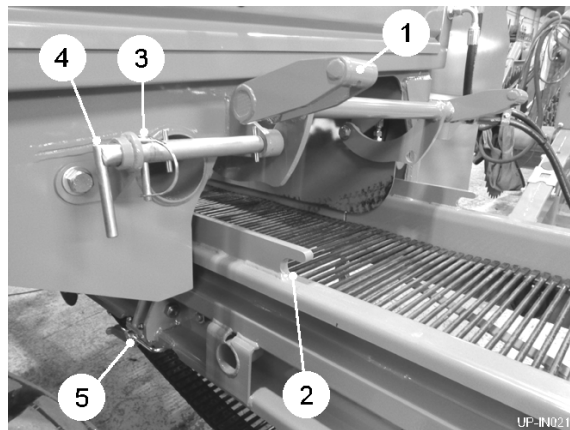

Fig 17
2. Once horizontal, disengage the latch arm (item 1, fig 17) from the hook plate (item 2, fig 17).
3. Raise the latch arm (item 1, fig 17) clear of the conveyor as shown.
4. Remove the linchpin (item 3, fig 17) and slide the support pin (item 4, fig 17) into the hole in the latch arm. Refit the linchpin.
5. Finally, lock the conveyor with the bottom catches (item 5, fig 17).
1. Unlock the conveyor bottom catches (item 5, fig 17).
2. Remove the linchpin (item 3, fig 17) and slide the support pin (item 4, fig 17) out to release the latch arm (item 1, fig 17). Refit the linchpin.
3. Lower the latch arm (item 1, fig 17) onto the conveyor.
4. Using the two external switches, move the cross conveyor to engage the latch arm (item 1, fig 17) into the hook plate (item 2, fig 17).
5. Finally, carefully raise the conveyor until in full contact with the rubber stop (item 6, fig 17).